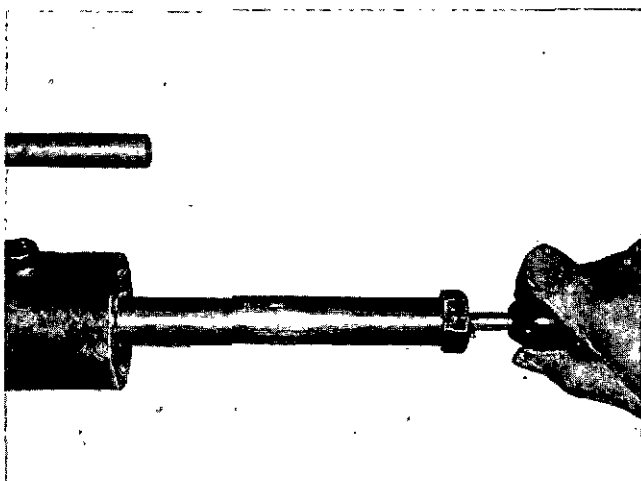

Fig. 1-1-19, V40189. Adjusting bore feed assembly
4. Pull out on plastic knob of feed assembly until pin is free of slot and turn 1/4 turn. Fig. 1-1-19.